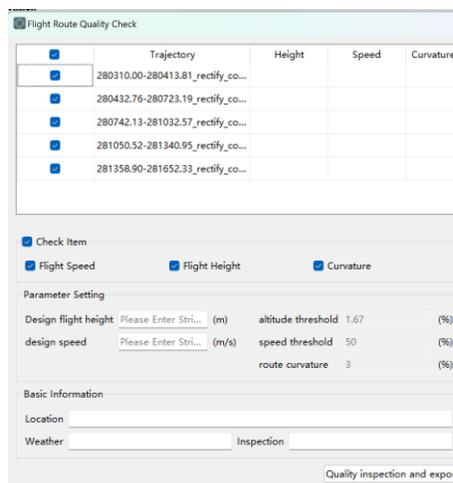

Figure 3-86 Flight Route Quality Check dialog box
1. Click <Solve> → <Quality Check> → < Flight Route Quality Check> (Figure 3-86).
1. Click "Start Inspection", the route quality will be inspected, the results of altitude, speed and curvature will be displayed in the Route Quality Inspection interface (Figure 3-86).